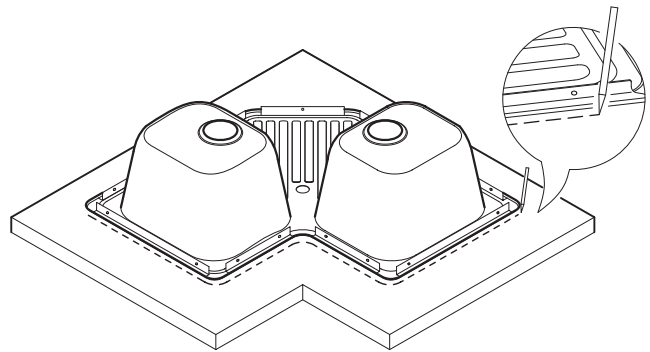

Fig 1.0
2. Place the sink, upside down, into position on the worktop where you want to install it. Mark the outline of the sink with a pencil. (See Fig 1.0)